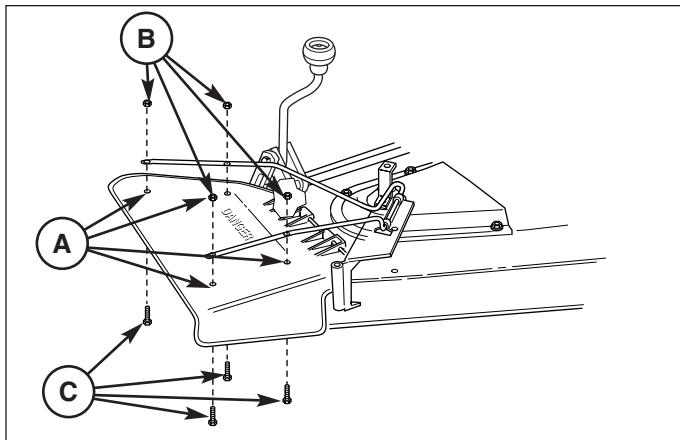

**Figure 5. Install Deflector Hinge**
2. Remove and discard the plastic plugs from the deck at the locations used by bolts (F & B, Figure 5).
3. Slide the deflector rod (D) through the pivot bracket (E).
4. Secure the front of the pivot bracket with a 5/16-18 x 3/4" carriage bolt (F) and flange whizlock nut (C).
5. Secure the back of the pivot bracket (E) and belt cover support (A) with a 5/16-18 x 1 capscrew (B), 5/16 washer (G), and flange whizlock nut (C).